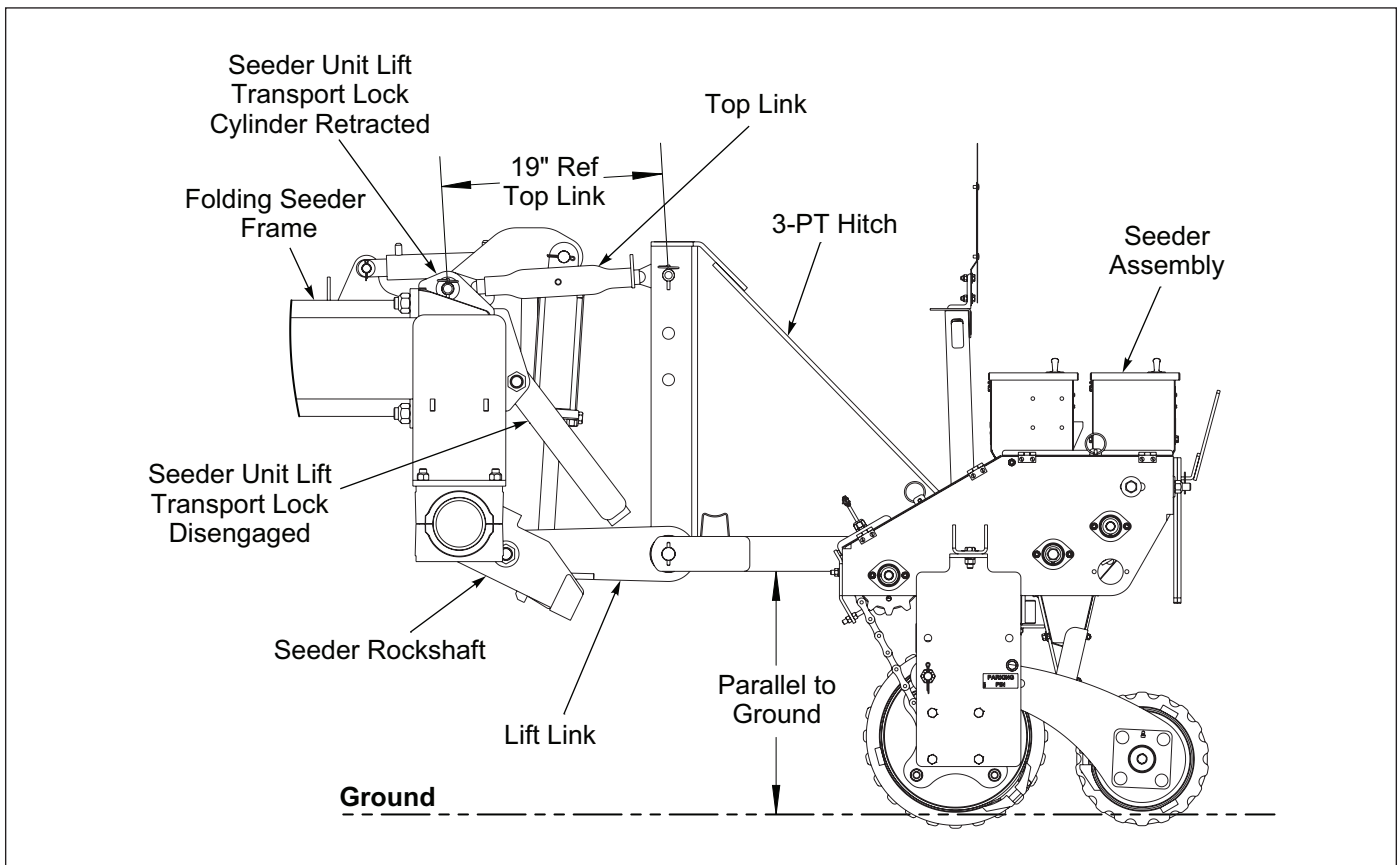

Figure 2-24: Leveling the Seeder Unit
11. Adjust the Top Links pin to pin center distance to 19 inches. See Figure 2-24.